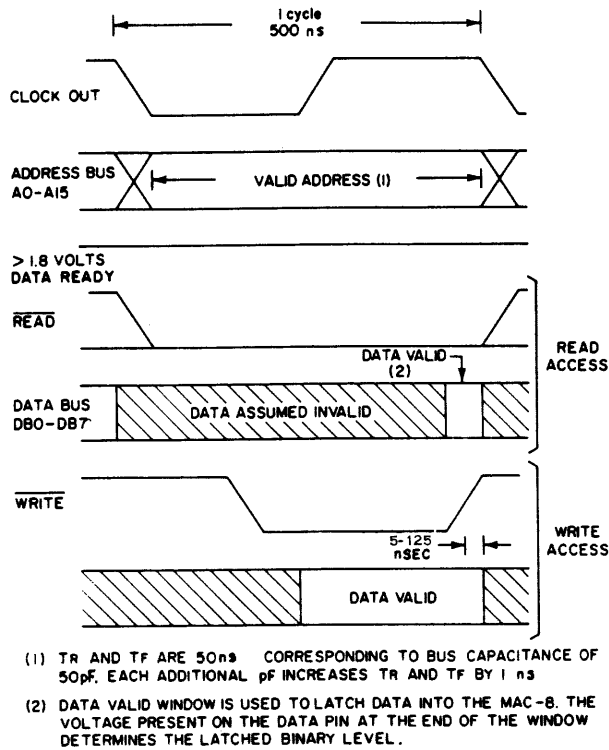

Figure 2-10. Fast Memory Accessing
- Fast Memory Accessing, Figure 2-10